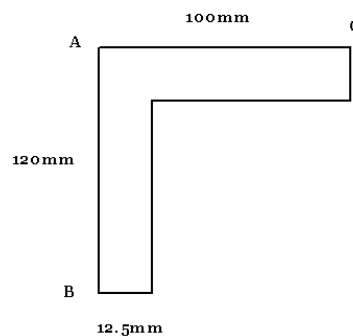

Figure 34
15. An unequal angle section shown in **Figure 34** is used as simply supported beam over a span of 2 m and uniformly distributed load of 10 kN/m, inclusive of its own weight. Determine the maximum tensile and compressive stresses in the section